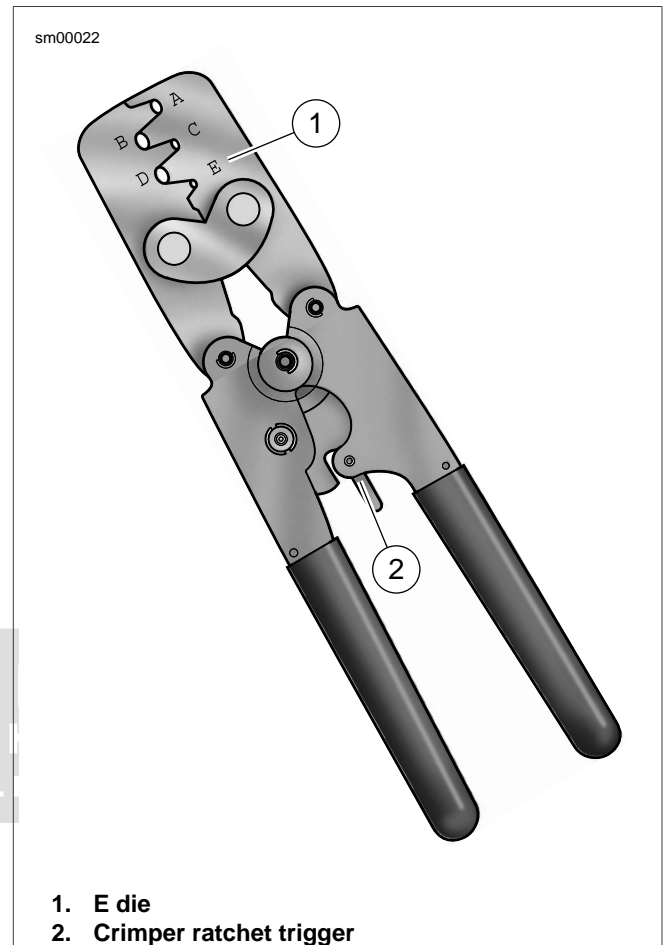

Figure A-24. Packard Terminal Crimper (HD-38125-7)
1. See Figure A-24. Compress the handles of PACKARD TERMINAL CRIMPER (Part No. HD-38125-7) until the ratchet (2) automatically opens.